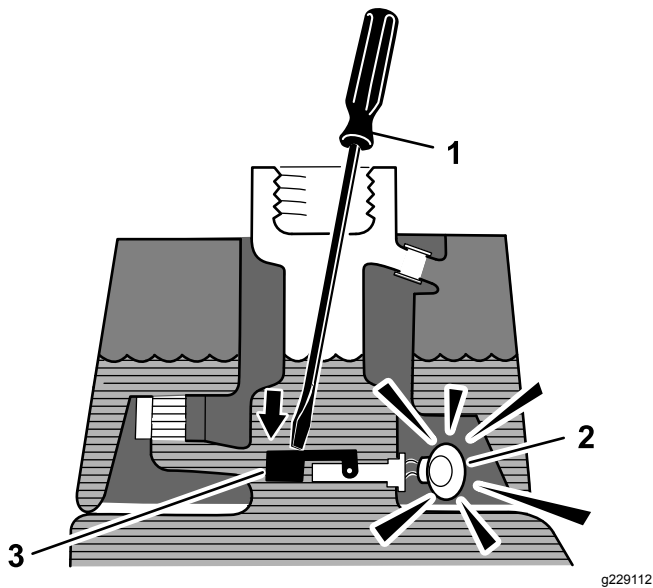

Figure 42
3. Insert a clean rod or screwdriver into the tank neck and gently push down on the float switch (Figure 42); the alarm should sound after the 1-second delay.